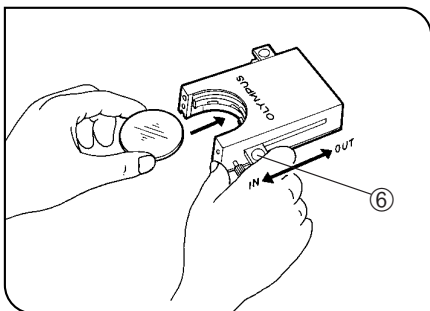

Fig. 7
**Using the Filter Cassette (Figs. 7 - 10)**
2. Slide the lever ⑥ to the IN position. Make sure that it clicks securely into place. (Fig. 7)
3. Holding the lever in the position shown in Fig. 7, put the filter into the cassette by inserting it in the direction indicated by the arrow.